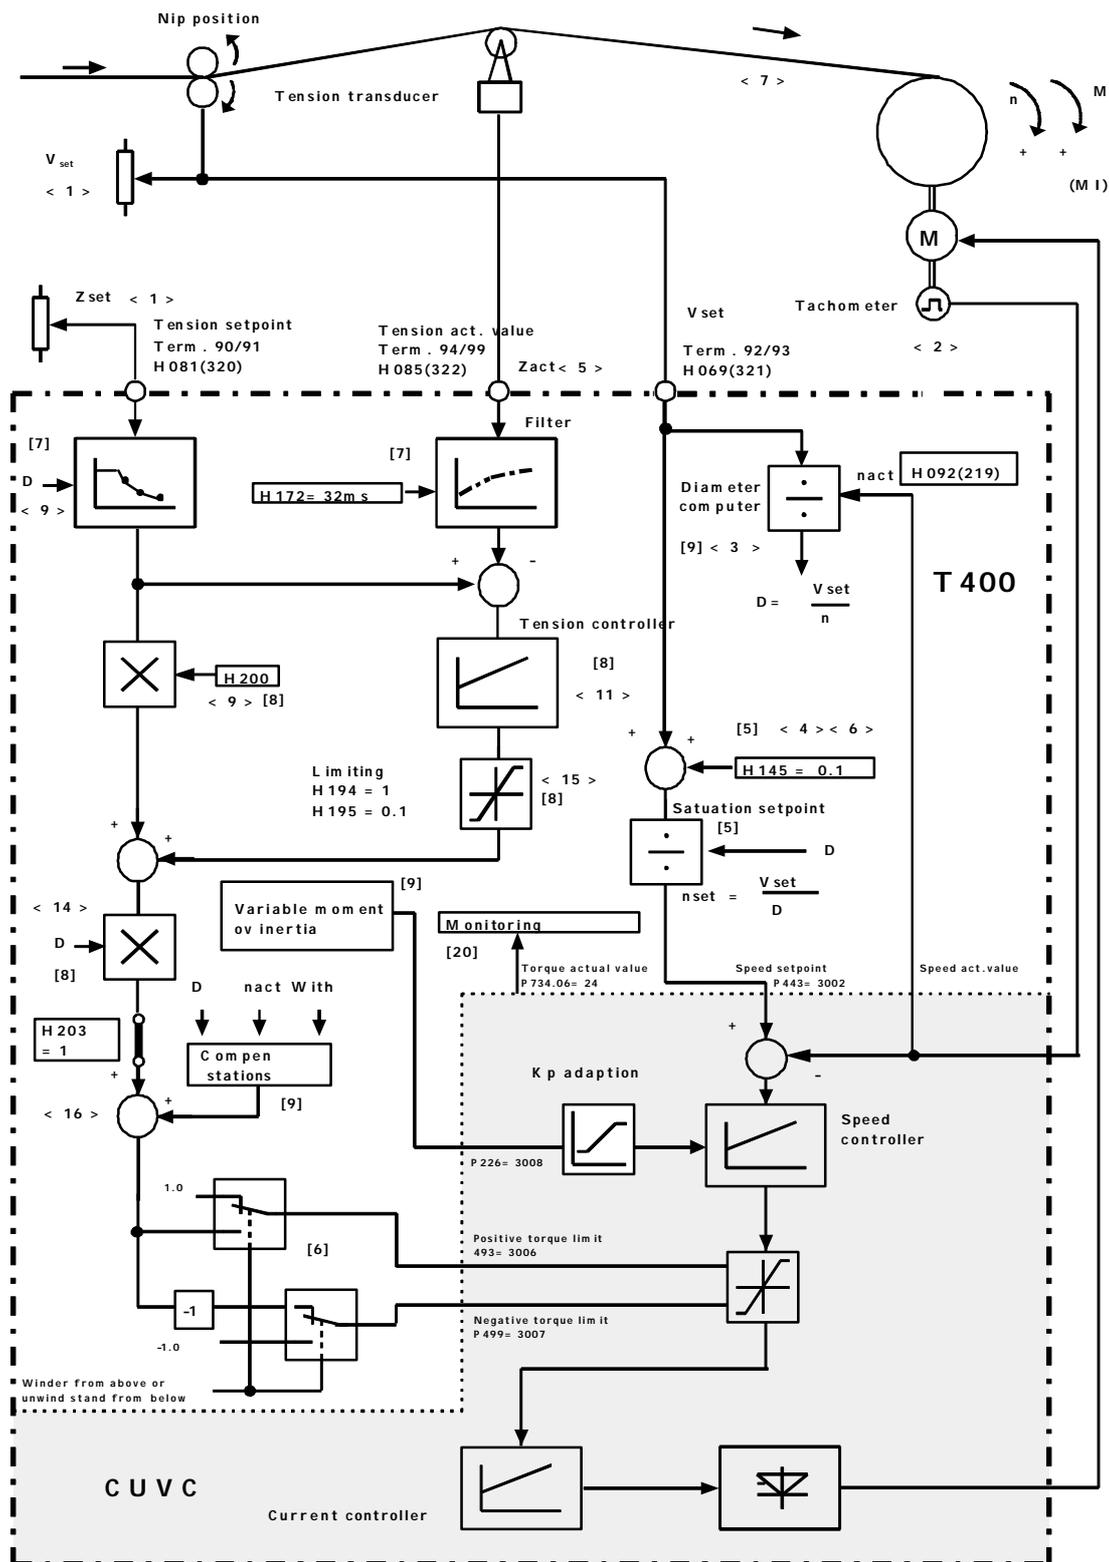

Fig. 4-12 Winder with tension transducer, torque limiting control
- Note** An example for a winder with tension transducer and closed-loop torque limiting control is shown in Fig. 4-12.
- <5>** The **tension actual value** is available as analog signal at terminals 94/99. In this case, under certain circumstances, external smoothing may be required; refer to Fig. 4-12.